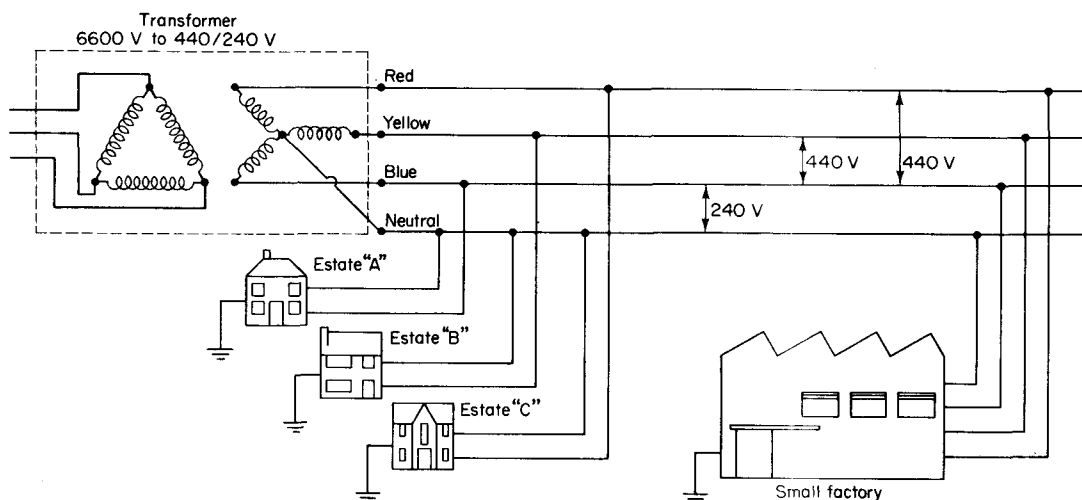

Fig. 2.100 A typical single-phase and three-phase supply system
**Single- and three-phase supply.** Supply cables to housing estates and factories are arranged as shown in Fig. 2.100. The three-phase wires are known as the red, yellow and blue phases. The fourth wire is the neutral wire.
As shown in Fig. 2.100, power is supplied from the neutral and any *one* of the phases. The supply authority